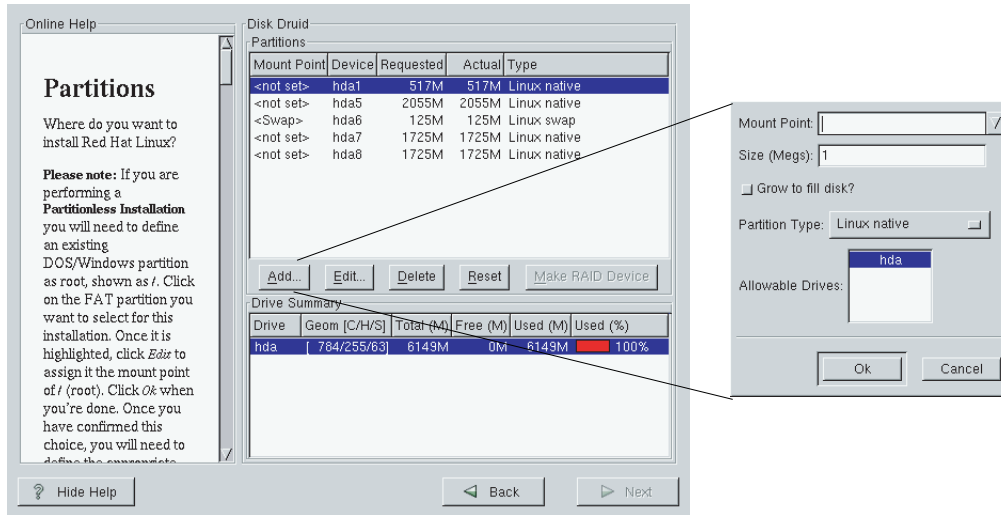

Figure 1-3 Disk Druid Partitions Window and Popup Window
- a. Click `Add` in the `Disk Druid Partitions` window; a popup window displays (refer to Figure 1-3).